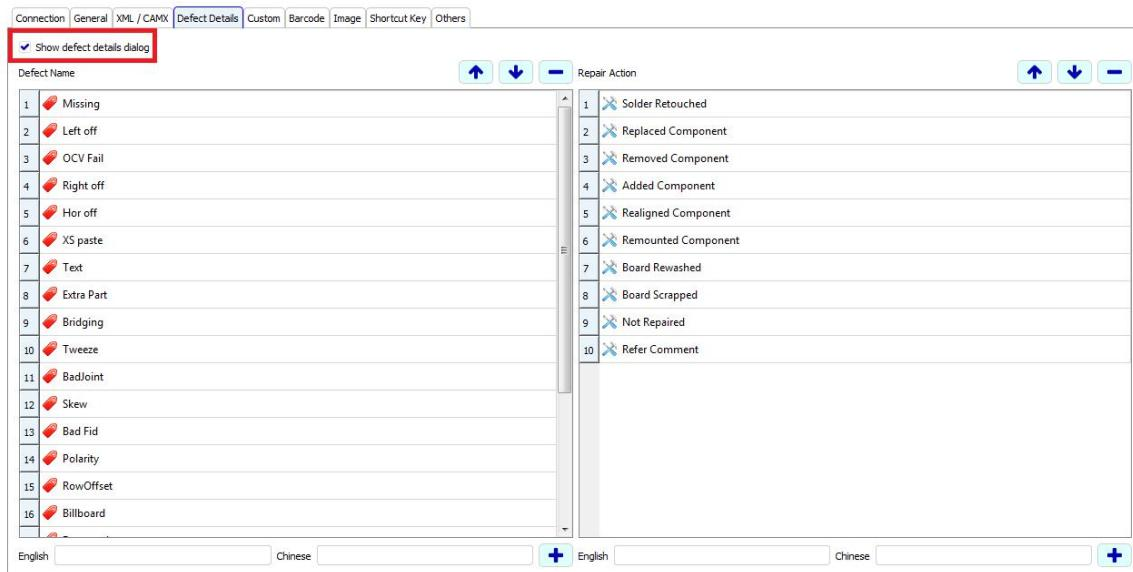

Figure 100: Defect details in VVTS
- IV. To change the defect name/repair action, double click on the “defect name” or “repair action”, a dialog will pop up for editing, refer to Figure 100.